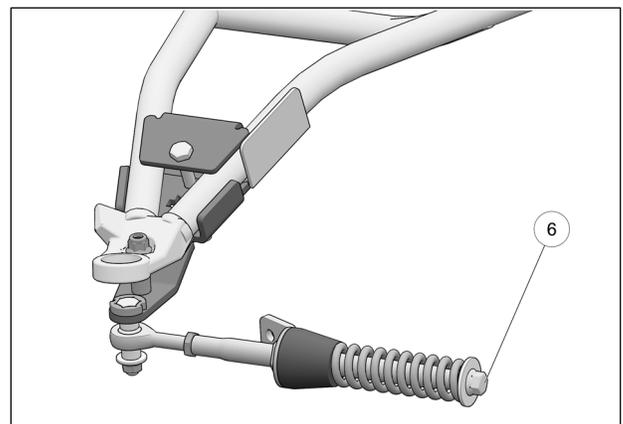

Fig. 20
10. Verify that spring assembly bolt (6) is tightened to the recommended torque specification: $75 \text{ N}\cdot\text{m}$ [$55 \text{ lb}\cdot\text{ft}$]. Refer to Fig. 20